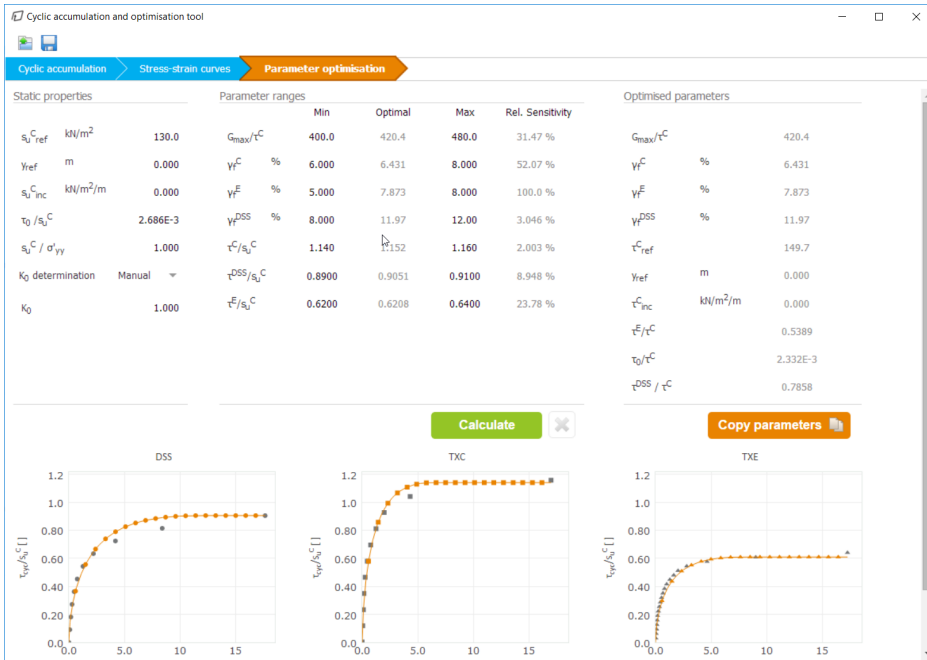

Figure 8.8 Optimised parameters for total load
- Click *Calculate* to obtain optimised parameters (Figure 8.8 and column 'Optimised value' of Table 8.3).